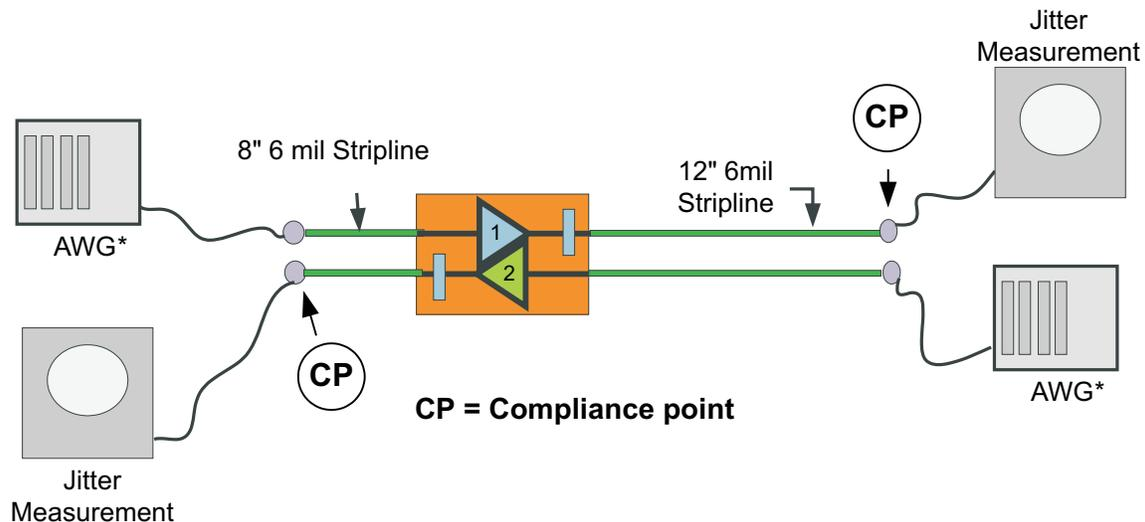

Figure 6. Jitter Measurement Test Condition
(1)  $TJ = (14.1 \times RJ_{SD} + DJ)$ , where  $RJ_{SD}$  is one standard deviation value of RJ Gaussian distribution. Jitter measurement is at the SATA connector and includes jitter generated at the package connection on the printed circuit board, and at the board interconnect as shown in Figure 6.